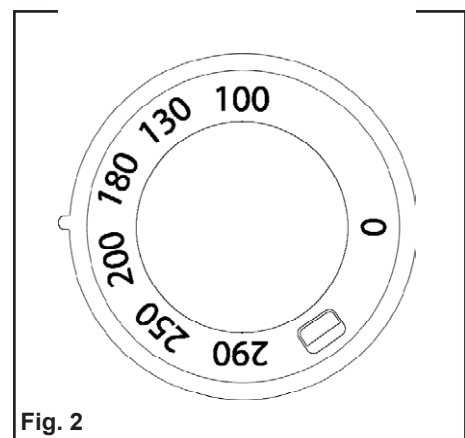

Fig. 2
- Turn the knob (Fig. 2) clockwise and set the desired temperature. The green light indicates the oven is on. The orange light indicates thermostat activation: when on, it signals the oven needs heat; when off, it signals the oven has reached the desired temperature.